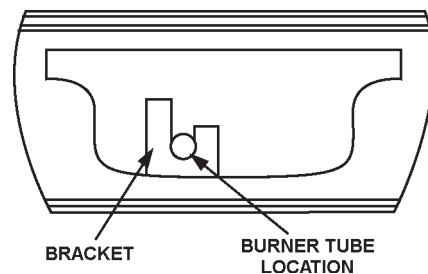

FIGURE 18.
- Reinstall the burner assembly through the door opening being careful not to damage the door gasket on the studs. Position end of burner tube inside bracket as shown in Figure 18.